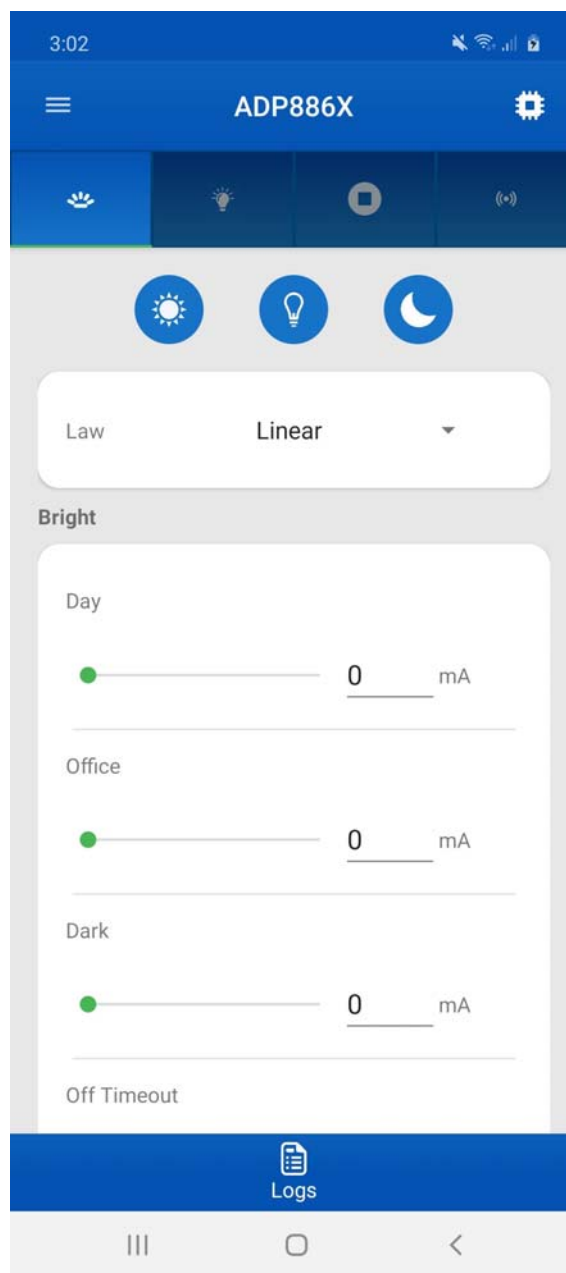

Figure 20. **BACKLIGHT** Tab for the Android App
6. In the **BACKLIGHT** tab, users can select the following (see Figure 20):